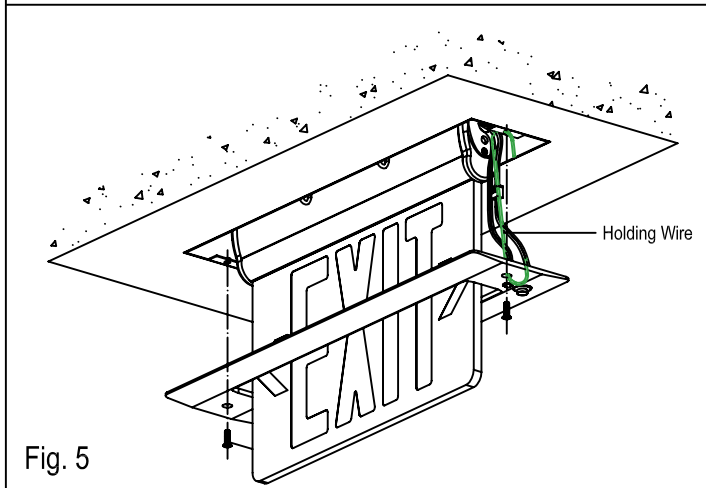

Fig. 5
6. Connect test switch (female connector) and LED indicator onto trim plate, then install trim plate to recessed kit. (See Fig. 5 on Page 2)